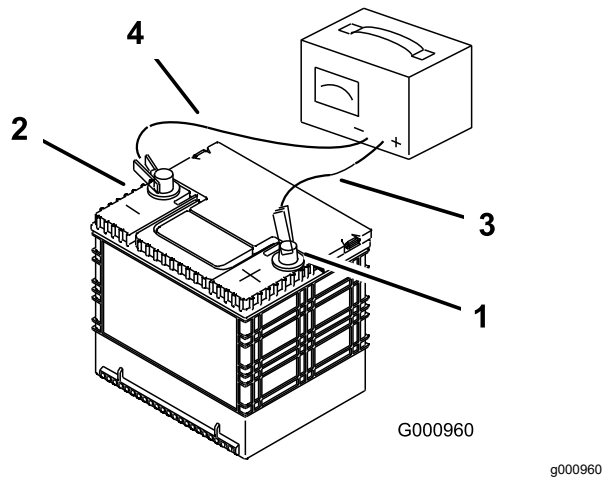

**Figure 52**
3. When the battery is fully charged, unplug the charger from the electrical outlet, then disconnect the charger leads from the battery posts (Figure 52).